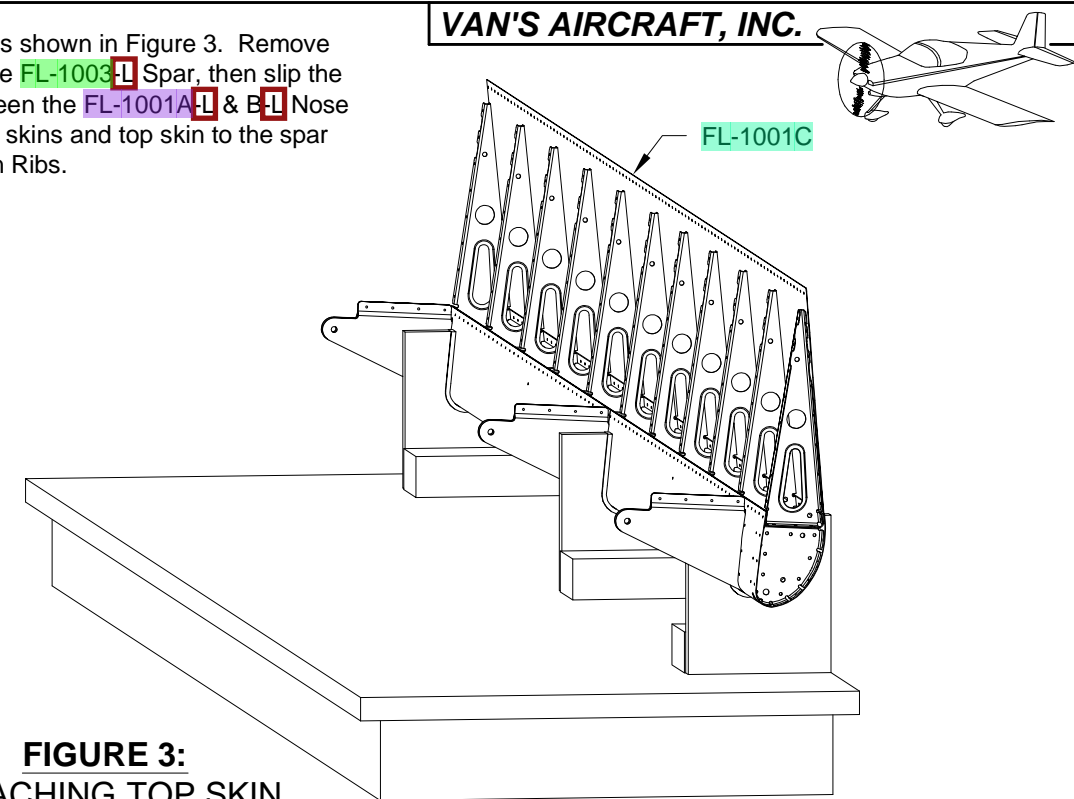

FIGURE 3: ATTACHING TOP SKIN
Step 3: Put the flap in the cradles as shown in Figure 3. Remove the clecos along the top flange of the **FL-1003-L** Spar, then slip the **FL-1001C** Top Skin into place between the **FL-1001A-L** & **B-L** Nose Skins and the spar. Cleco the nose skins and top skin to the spar and **FL-1005-L** and **FL-1005-R** Main Ribs.
Step 5: Rivet the **FL-1001C** Top Skin to the **FL-1005-L** and **FL-1005-R** Main Ribs. Don't, however, install the two aft-most rivets (AN426AD3-3's, see Page 22-9, Figure 3) in each main rib; these will be back driven later.